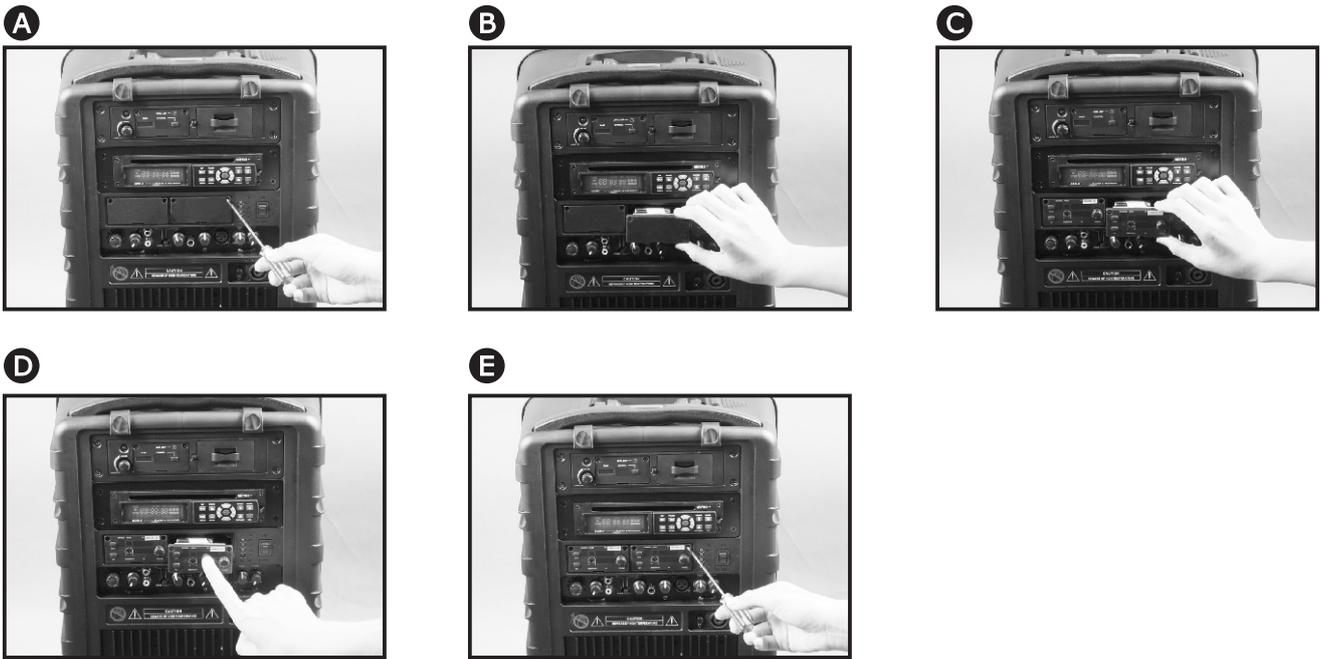

Fig. 12
1. Each MA-808 can install two separate wireless receiver modules situated at the two slots ① right above the control panel.
2. Installation or replacement of wireless receiver modules: Fig. 12
- (A) Using a Phillips-head screwdriver (not supplied) remove the screws to remove receiver protection cover panel. (see fig. ① & ②)
- (B) Gently insert the receiver module into the slot. Make sure the back edge connector is aligned and firmly connected. (see fig. ③ & ④)
- (C) Tighten up the screws. (see fig. ⑤)